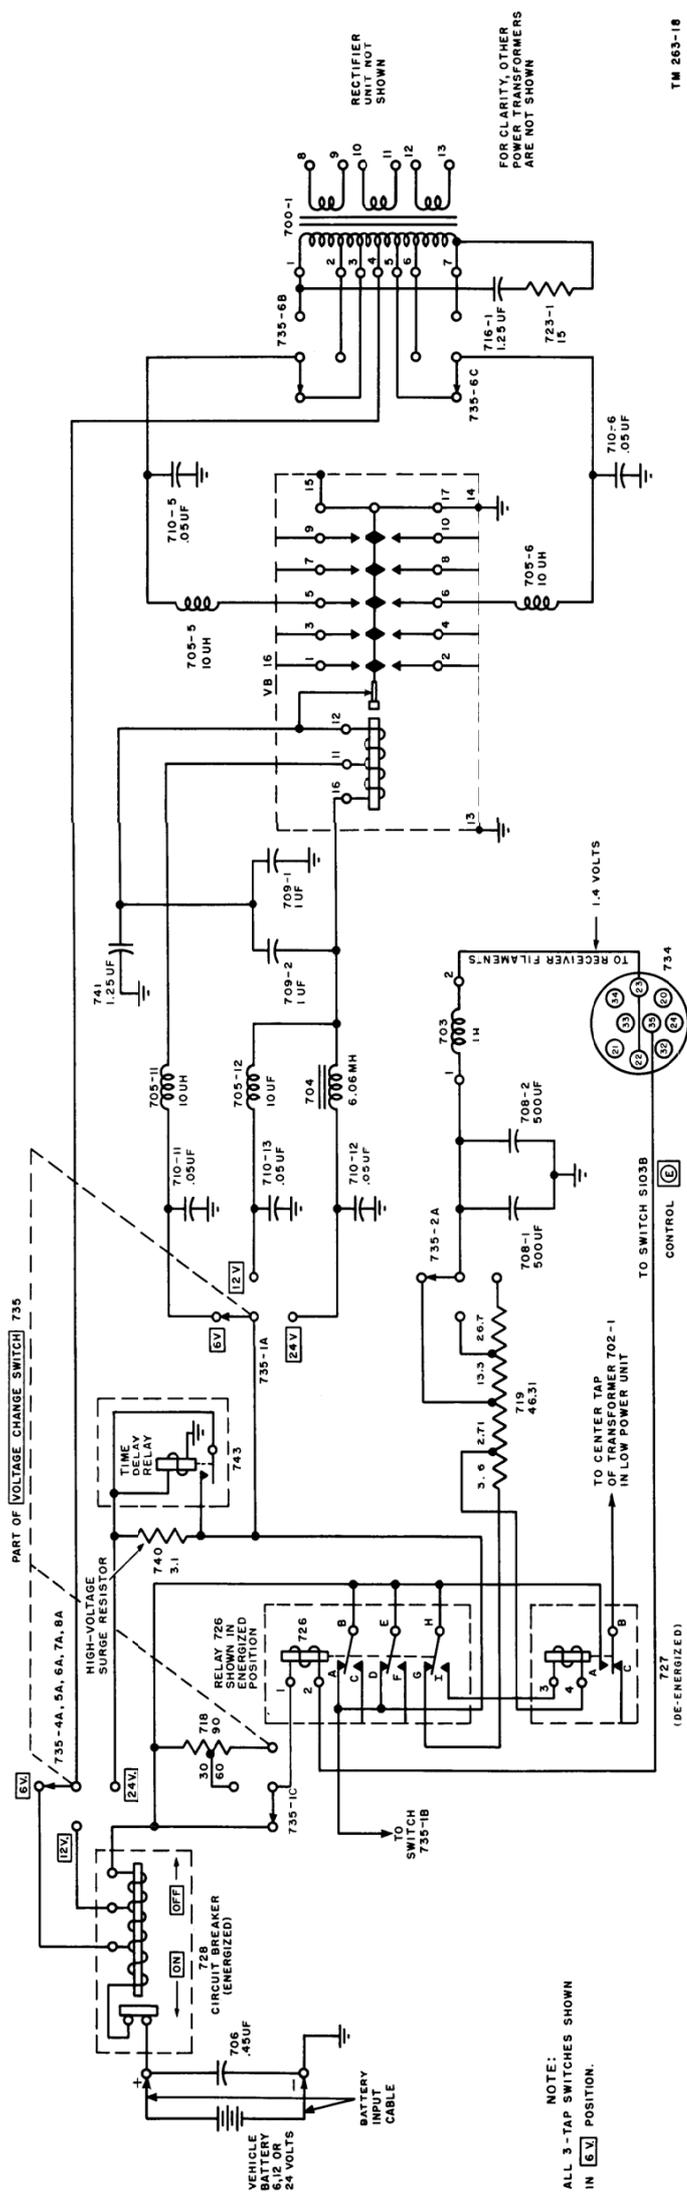
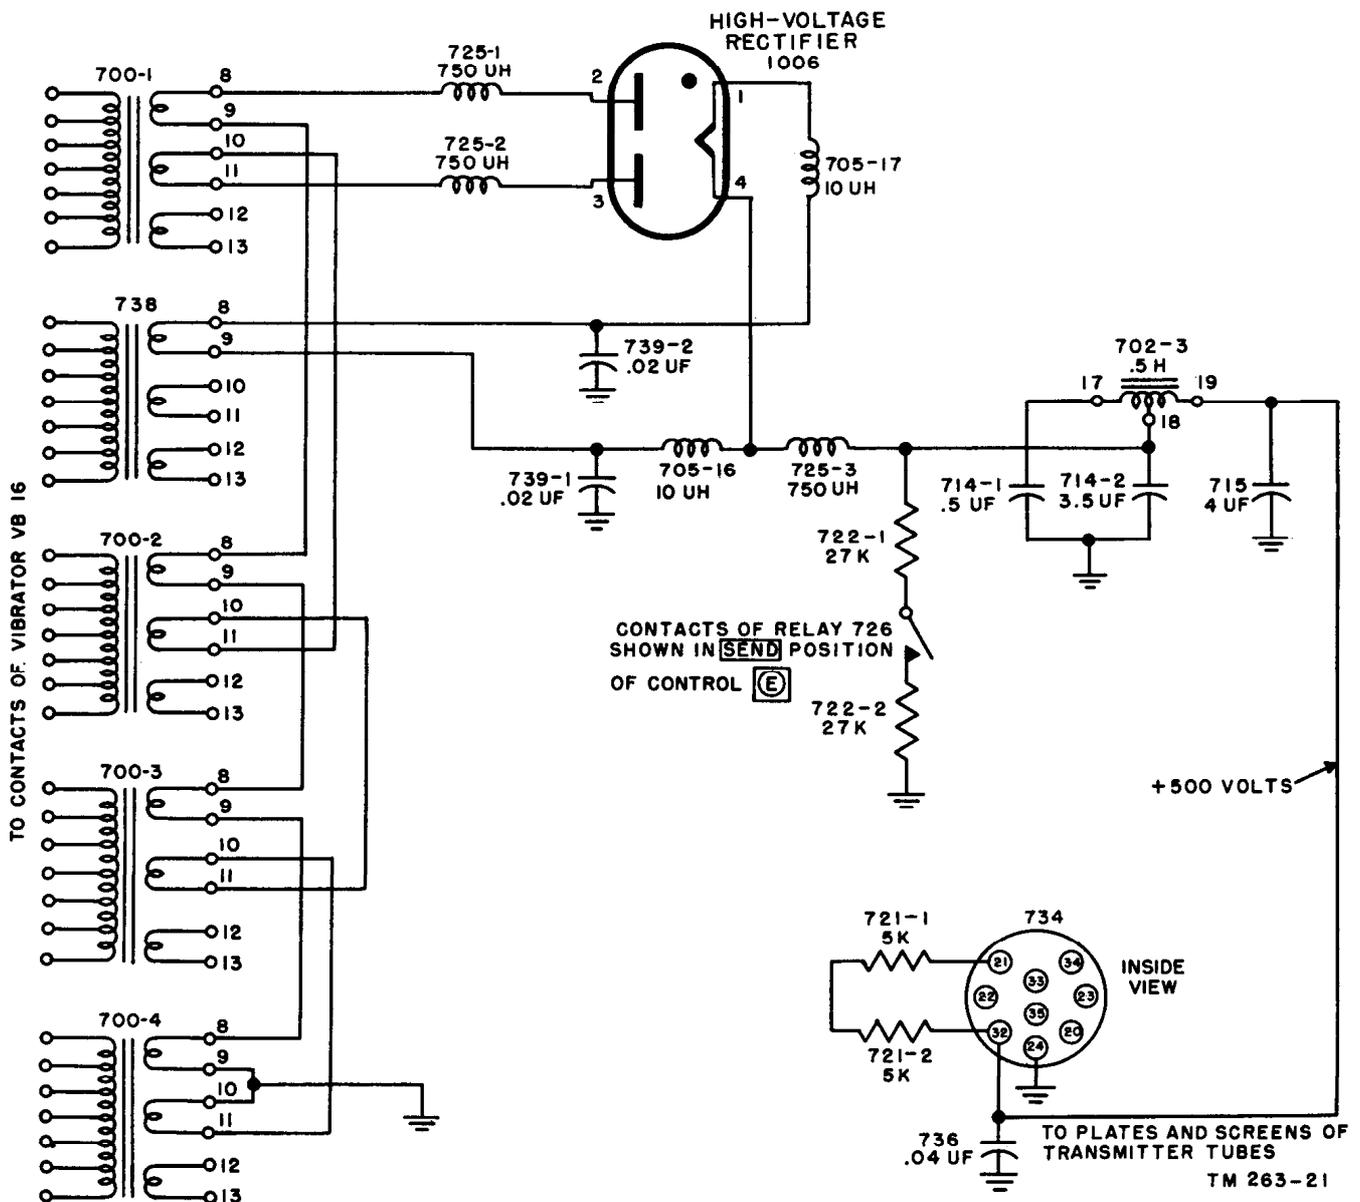

Figure 97. Vibrator heavy-duty section, simplified schematic diagram
Figure 98. High-voltage rectifier and filters of heavy-duty section, simplified schematic diagram.
a. Figure 97 shows the heavy duty section, up to the primary of one of the power transformers. The standby part is not shown, and neither is the
rectifier for the heavy duty section, which will be described in paragraph 142. Terminal 1 of the coil of relay 726 connects through voltage selector switch 735-1C to circuit breaker 728, and to the positive terminal of the vehicular battery. If the other end of the coil of relay 726 is connected to ground, the relay would be energized. Terminal 2 of the coil of relay 726 connects to terminal 35 of power output receptacle 734. Terminal 35 connects to terminal 55 of receptacle J102 on the transmitter by means of Cord CD-1086. Pin 55 (fig. 94) connects to ground when switch S103B is turned to SEND. Therefore, when control ⑥ is turned to SEND, the coil of relay 726 is energized and pulls the movable contacts up (fig. 97).
a. Filament-dropping resistor 719 connects directly to stationary contact G on relay 726 and through movable contact H, which is connected to the positive side of the battery through circuit breaker 728. Therefore, on SEND position of control ⑥, the receiver filaments obtain their current through contacts G and H of relay 726 (fig. 97), while on STANDBY the filament current flows through the coil of the other relay 727 (fig. 96).
137. Switch Sections 735-4A, -5A, -6A, -7A, and -8A (fig. 97)
138. Hv Starting Resistor of Vibrator Power Supply (fig. 97)
139. Driving Coil of Vibrator VB16 (fig. 97)
140. Vibrator VB16 and Power Transformer (fig. 97)
a. The ac surges through the primaries of the power transformers cause a very high voltage to be induced in the secondaries (fig. 98). All the secondaries that have taps marked 8, 9, 10, and 11 are connected in series, except the windings of transformer 738. The combined voltage present in this series combination is impressed upon the plates of rectifier tube 1006, which operates as a full-wave rectifier, and is rectified. The filament of tube 1006 receives its voltage from taps 8 and 9 of transformer 738 and this is the only purpose for which transformer 738 is used. Because of rf noise generated in gas tube 1006, it is necessary to place rf choke coils 725-1 and 725-2 in series with the rectifier plates to filter out any rf disturbances which occur. Hash suppression filters, located in the filament leads, consist of capacitors 739-1 and 739-2 in conjunction with choke coils 705-16 and 705-17. The rectified hv output is taken from pin 4 of tube 1006, to ground.
a. Capacitor 739-1 and 739-2 (fig. 98), which are the filament bypass capacitors for the hv rectifier tube 1006 filaments, are not supplied in early models of Vibrator Power Supply PE-237. Hv surge resistor 740 and time delay relay 743 are used only in models having serial numbers 22436 and up (figs. 97 and 172).
b. Another change is the method of operation of rectifier tube 1006. In the late models (fig. 172) of the vibrator power supply, this tube has its filament heated by voltage from transformer 738, while only four power transformers, 700-1 through 700-4, supply plate voltage to the rectifier tube (fig. 98). In the older models, the filament of the hv rectifier tube 1006 did not have any voltage applied to it, so it operated as a cold-cathode rectifier, having five power transformers supplying rectifier plate voltage (fig. 171).